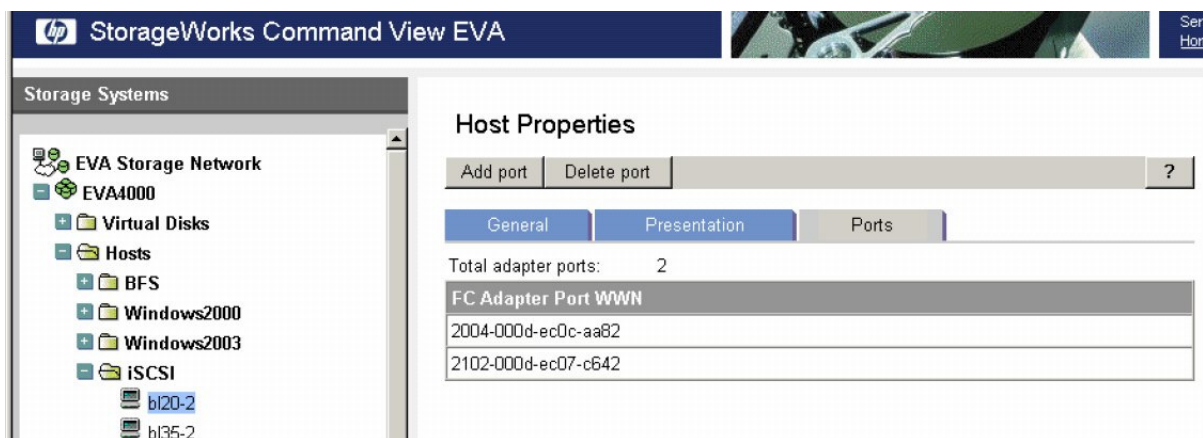

Figure 36 Both ports presented to the host
1. In Command View, be sure to include both ports for proper multi-pathing support when adding a host (Figure 36).